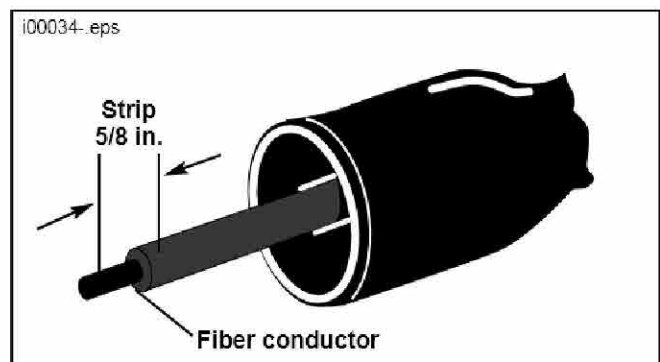

Figure 3. Properly Stripped Wire
4. See Figure 3. Strip away 5/8 in. of insulation from ends of wires with a crimping/stripping tool (Belden 726601 or equivalent) using 10 or 12 gauge stripping hole.